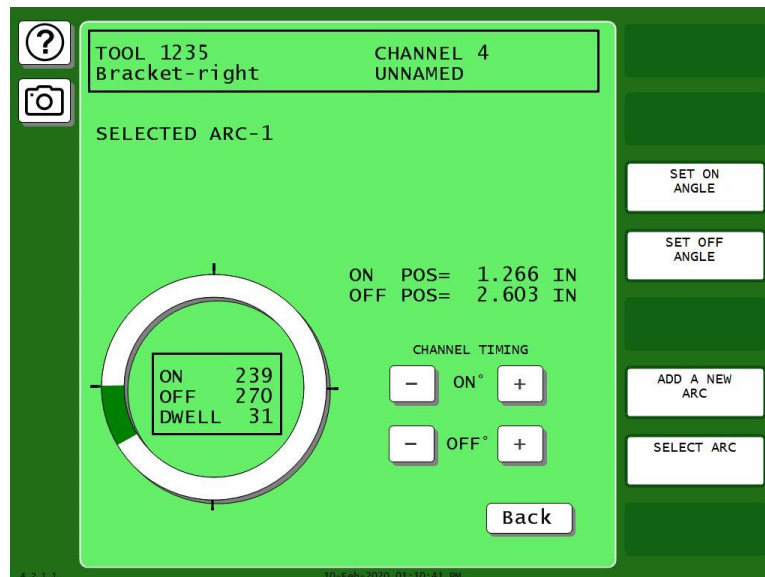

Figure 5-48. Cam Channel On/Off Program Screen: One On/Off Arc
1. Make the first On/Off setting as instructed in *Making an ON/OFF Setting*, page 145. Figure 5-48 shows the Cam Channel On/Off Program screen set for an On angle of 30° and an Off angle of 50°. The ram On and Off positions are 6.998 in. and 6.341 in. Note the caption at the upper left of the screen indicating that Arc 1 is selected.